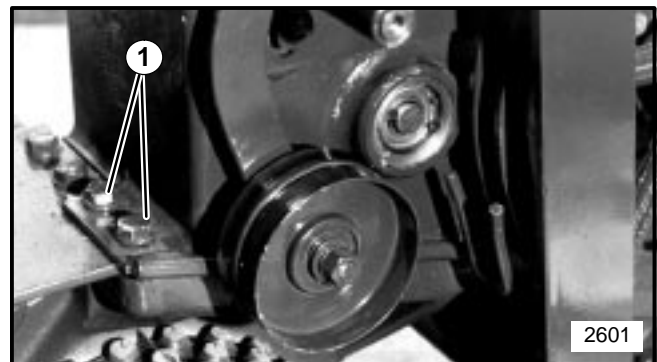

FIGURE 9
4. Loosen two (2) screws securing belt guide to provide clearance when removing belt. See Figure 9.